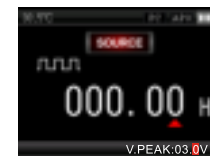

Figure 25 Frequency output
Press **Hz** to select frequency output. Frequency output shown in figure 25, connection shown in 26, press the arrow key (right & left) to choose output placement, press the arrow key (up & down) to set the value.
- 2) Short Press SETUP to display frequency modification page, as figure 25, in this page, you can modify the frequency by pressing the arrow key. After modification, if you short press SETUP again, the modification will become effective. Short press ESC to give up the modification.